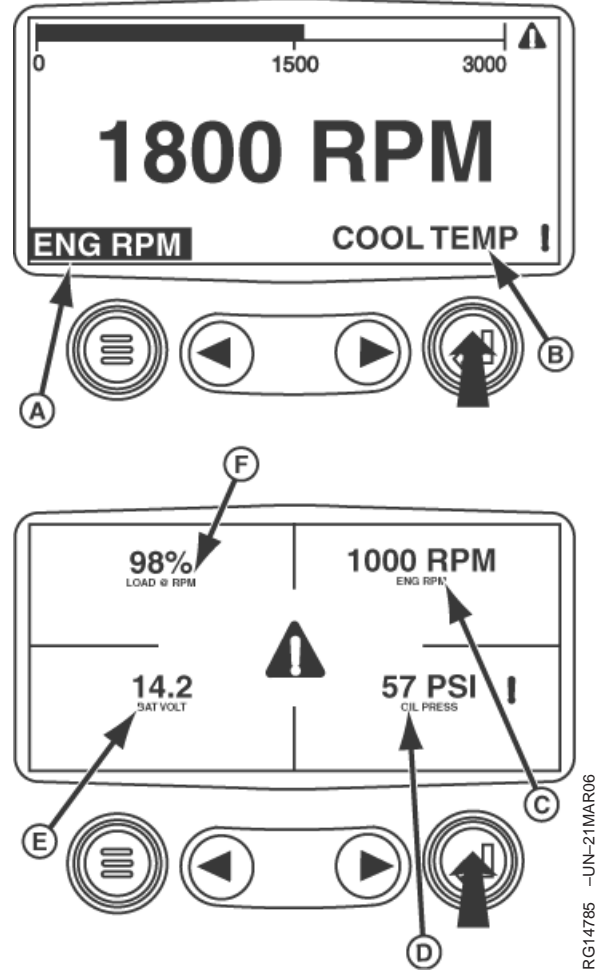

Figure 5. One and Four -Parameter Displays, With Icon Examples
5. Upon returning to the one or four – parameter display screen, while a DTC is still active, one of the following icons is shown. Also, refer to figure 5.